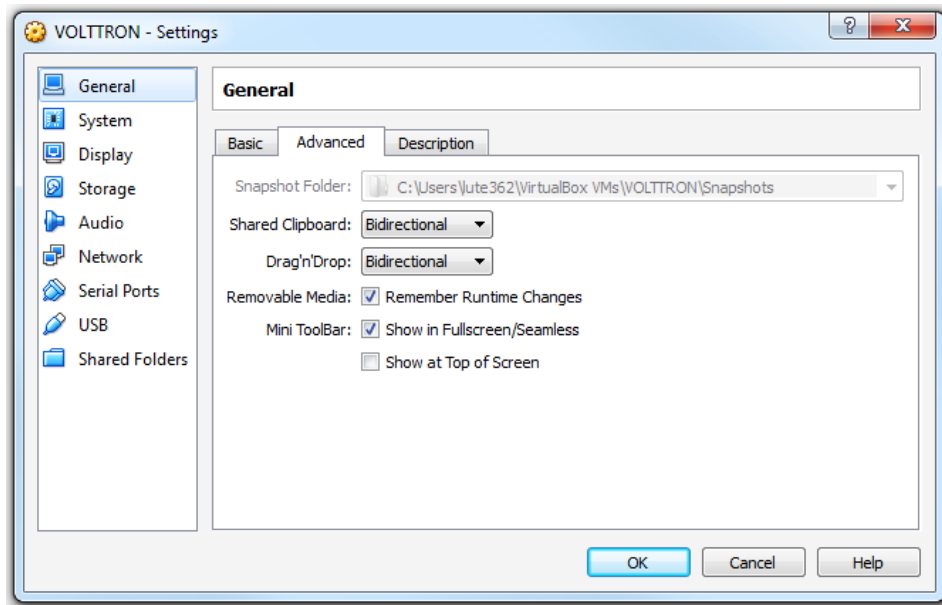

Figure 12: Enable bidirectional copy and paste (Shared Clipboard) and Drag'n'Drop
10. To enable bidirectional copy and paste select the General tab in the VirtualBox Settings. Enable Shared Clipboard and Drag'n'Drop as Bidirectional as shown in Figure 12.